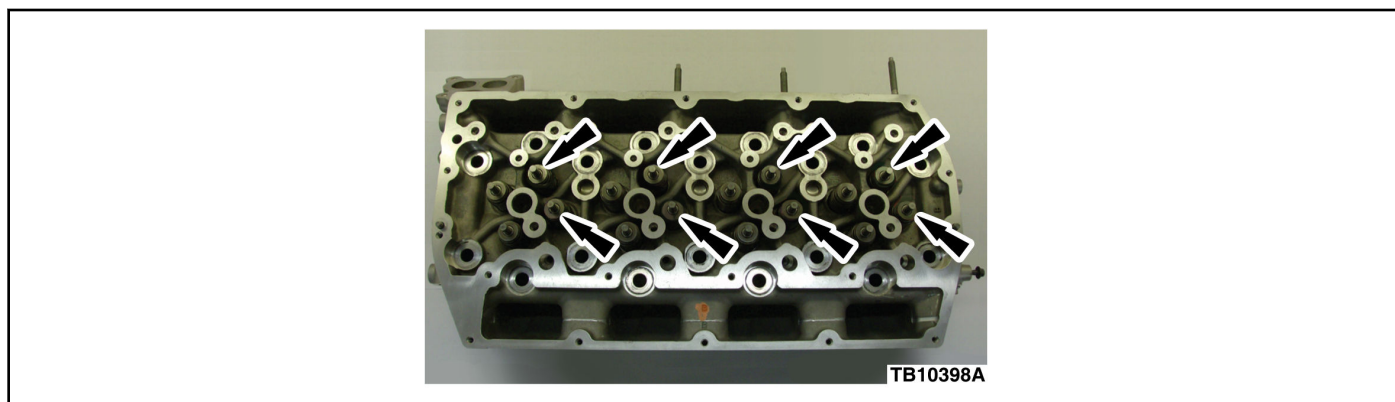

Figure 1 - Article 16-0041
4. Replace all eight (8) exhaust valves and valve seals. Refer to WSM, Section 303-01. (Figure 1)